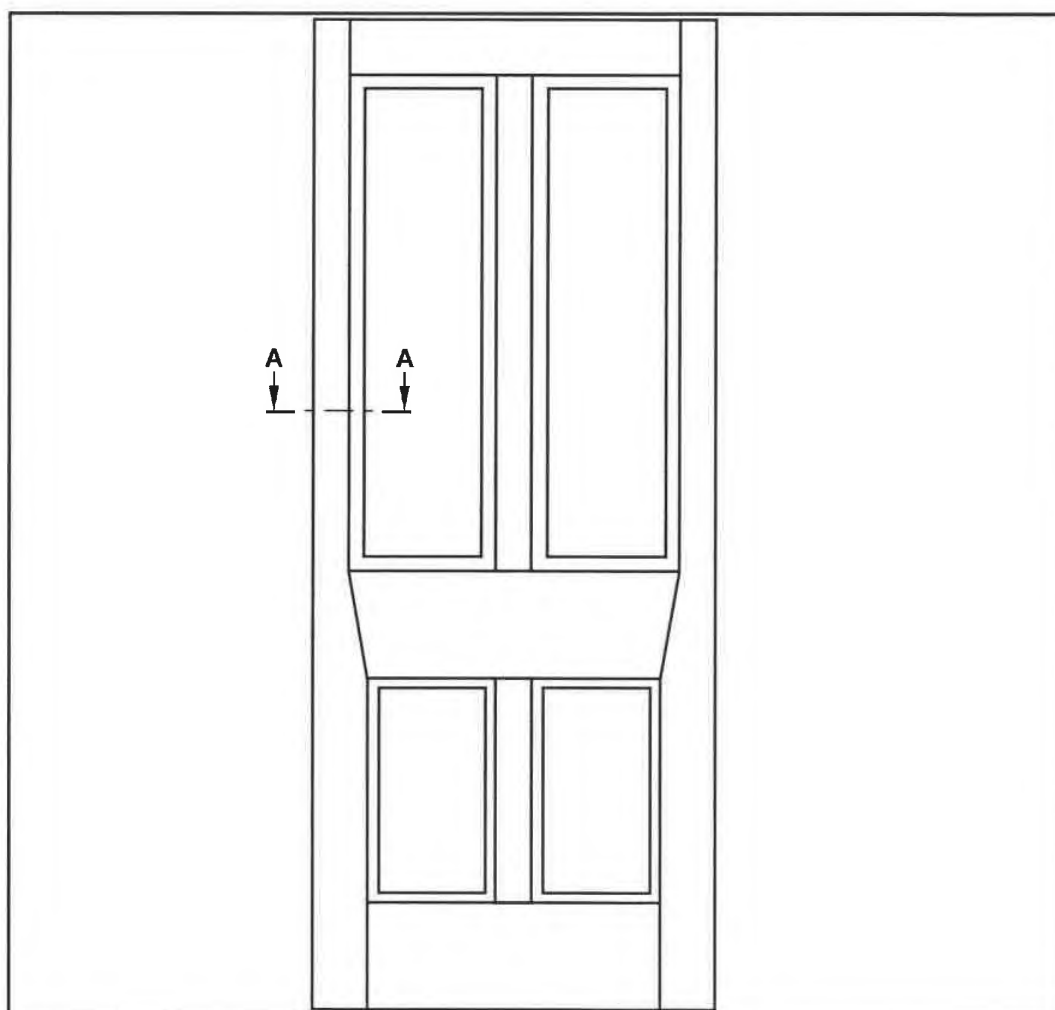

FIGURE 6.5
6.5 FIGURE 6.5 shows the front view of a four-panel door with a low lock rail, diminishing stiles and raised panels. Section line **A–A** is also indicated on the drawing.